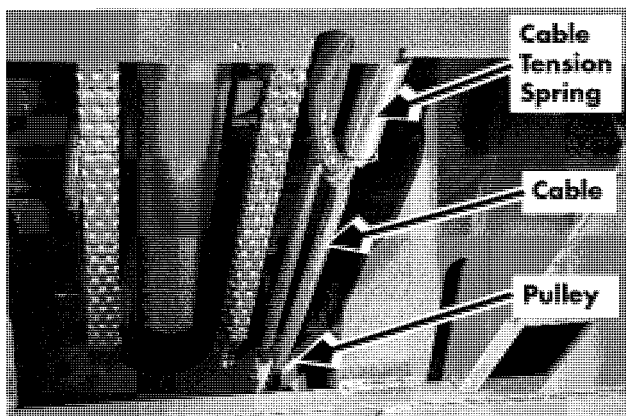

Figure 7-118. Electrical Over-the-Mast Cable, Front Side of Platform
11. Lower carriage and install cable on bottom pulley of carriage. Install cable retainer spring. See Figure 7-118.